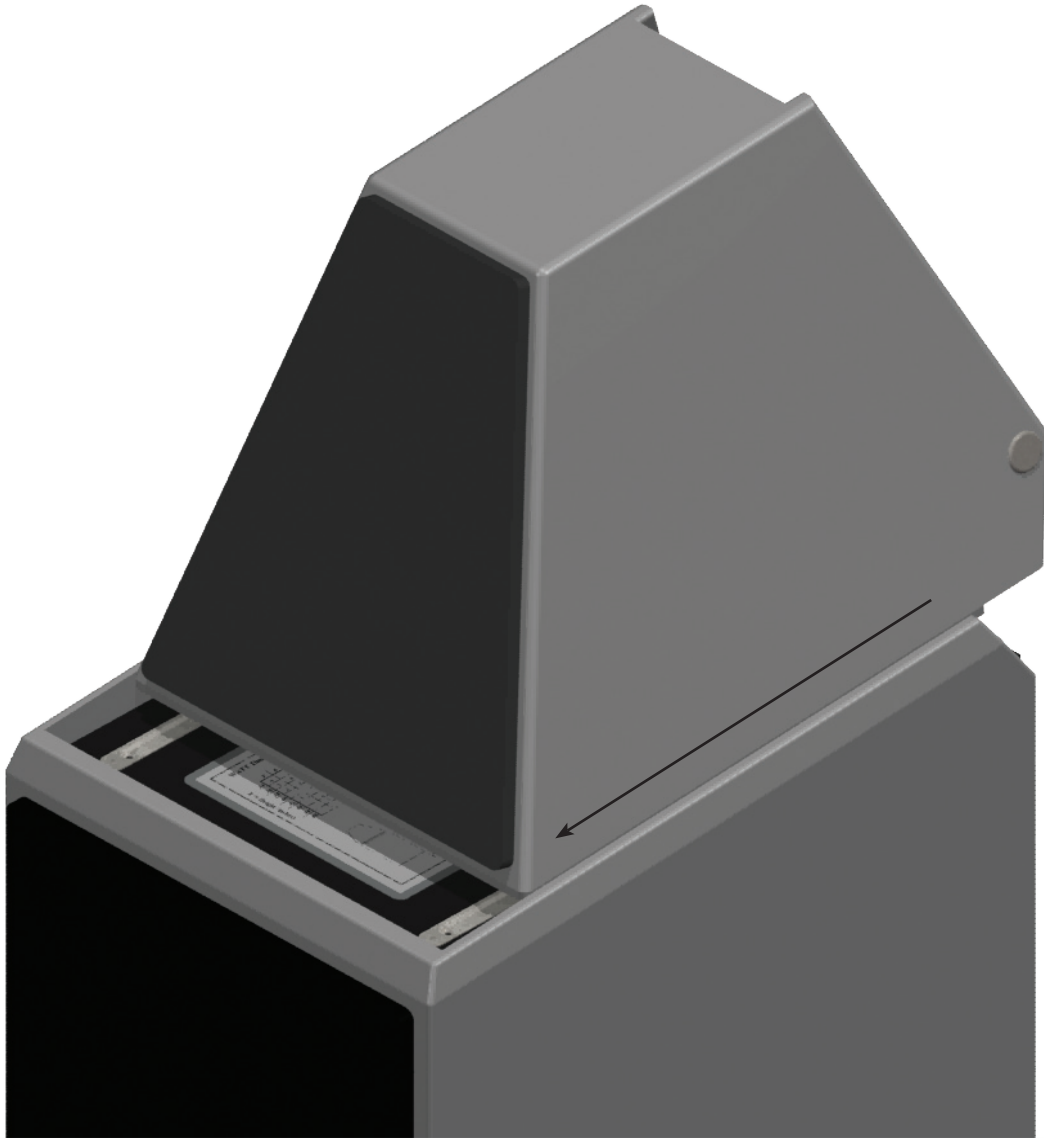

FIGURE 5 - SLIDE THE WATT'S FRONT SPIKES ALONG THE GUIDES IN THE TOP OF THE PUPPY, KEEPING REAR OF THE WATT ELEVATED TO AVOID SCRATCHING THE PUPPY.
- Grasping the handle and top of WATT, slide the WATT forward until the spikes slide into the spike receptacle (see Figure 5 above). The two front spikes will now be resting in the holes of the receptacle atop the Puppy.